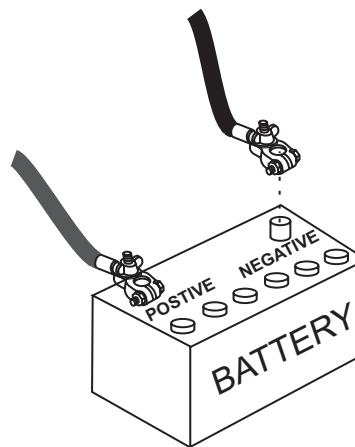

Figure 21. Battery Connections
3. Connect the negative battery cable (BLACK) to the negative post on the battery (Figure 21).